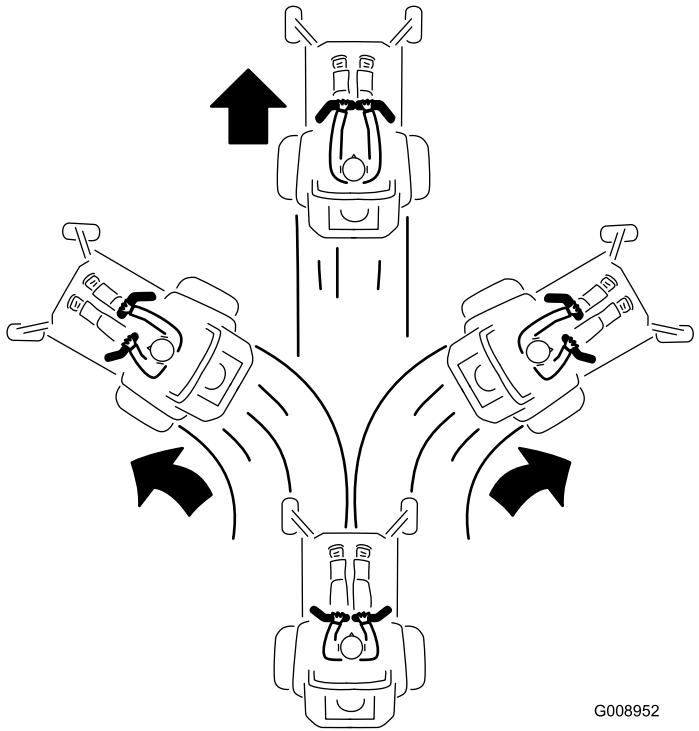

Figure 34
3. To go forward, slowly push the motion-control levers forward (Figure 34).